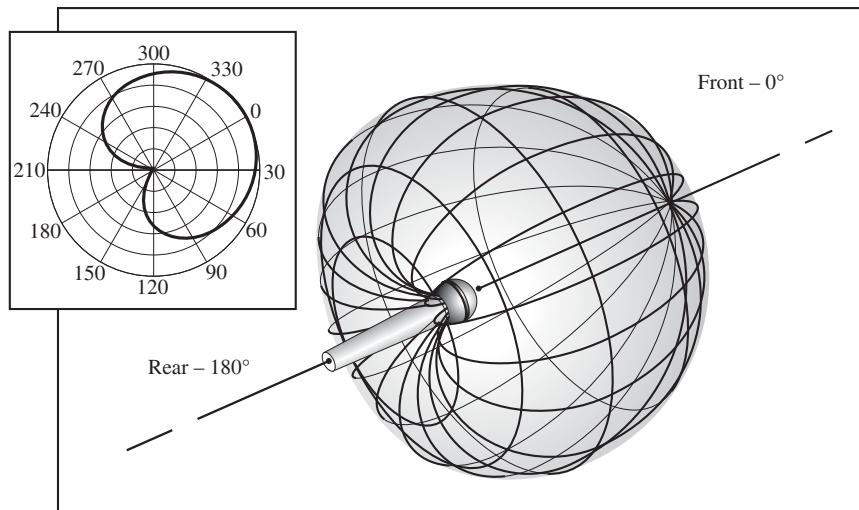

FIGURE 3.7
- **What is a cardioid pattern?** Cardioid patterns are so called because their pickup pattern is shaped not unlike a heart (Figure 3.7). Note that pickup on the front is best, and level decreases as sound arrives from the sides and back. As frequencies lower, cardioid patterns become more omnidirectional.